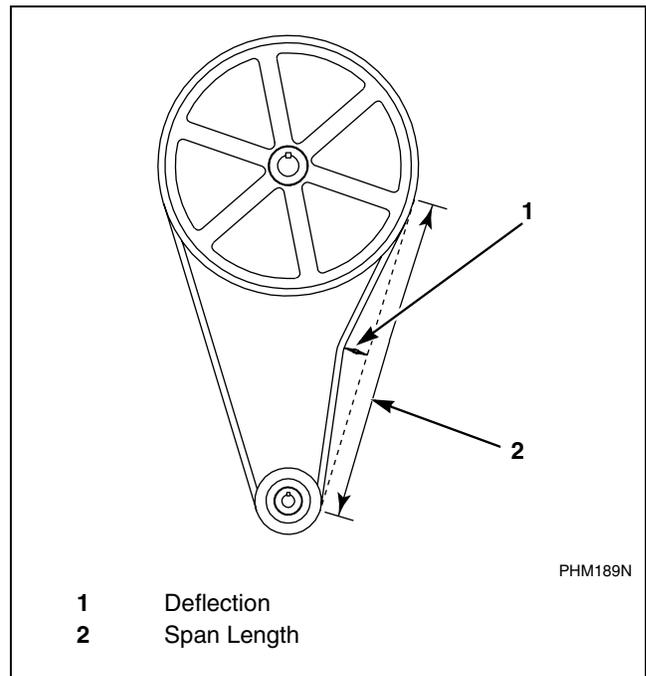

Figure 6
- **Deflection.** Refer to *Figure 6*. Loosen motor mounting bolts and slide motor along motor plate to change belt span length. Belt tension measurements should be taken as close to the center of the belt span as possible. For every inch of belt span length, the belt should deflect 1/64 of an inch, or 0.40 millimeter, with an exerted force of 5.25 pounds for a new belt or 3.5 pounds for a used belt. A belt with a span length of 20 inches should deflect 20/64 of an inch, or 7.8 millimeters. The belt(s) should be as loose as possible without allowing slippage during peak load condition. An initial (run-in) force of 7 lbs. should be used to set the belt tension. An operating (normal) force of 5 lbs. should be used after the washer-extractor has been operated for a few hours.